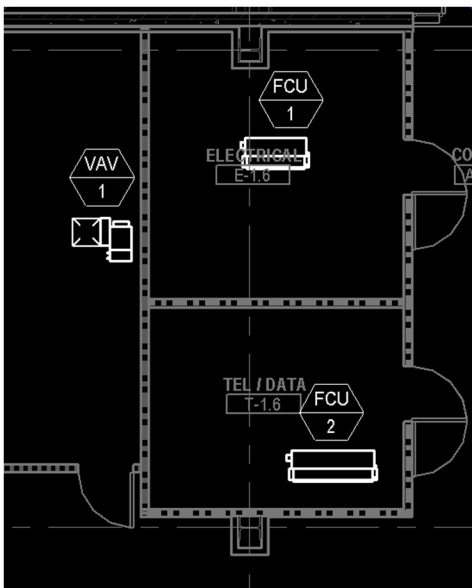
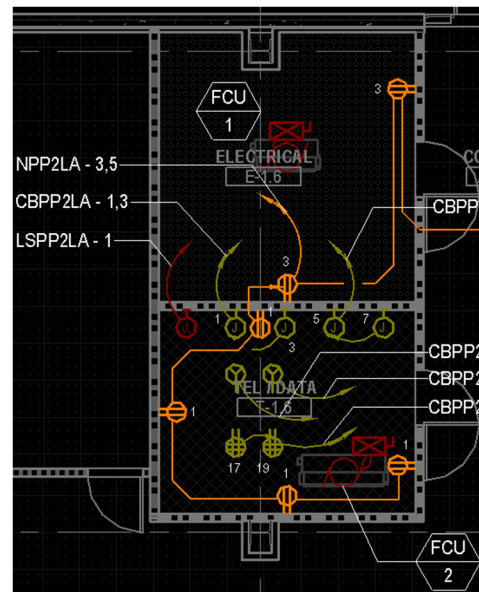

Figure 4.8
Figure 4.9
Figure 4.8 shows the layout of the mechanical engineer. Figure 4.9 shows the power plans, wherein the only mechanical equipment outline shown are the (2) FCU's, since these are motorized and are to be scheduled.